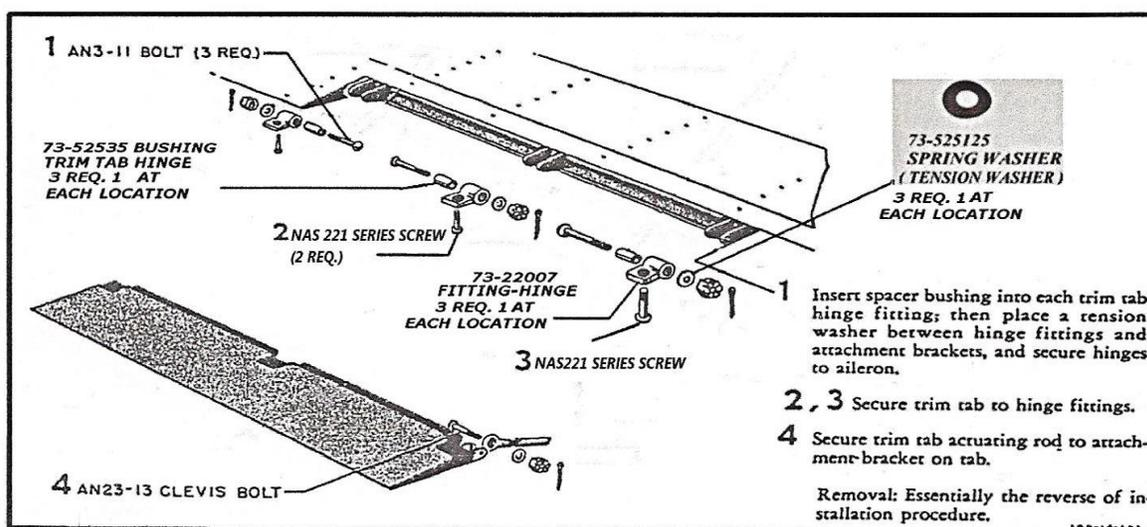

FIGURE 90- INSTALLING AILERON TRIM TABS REVISED UNDER LTC-11-5 MAY 1 2013
- Attach this Supplement No.1 to Service Bulletin P51-001 dated May 1, 2013 to update page 7 figure 90 "Installing Aileron Trim Tabs" with figure 90 below to reflect the correct P/N NAS221 Series structural screw 10-32 thread.
- Apply the enclosed adhesive back revised figure 90 to AN 01-60JE-2 Handbook Maintenance Instructions for USAF Series F-51D, ZF-51K, F-51M, TF-51D dated December 20 1944, revised December 20 1952, page 84 figure 90 "Installation of Aileron Trim Tab" to reflect the correct structural Screw P/N NAS221 series 10-32 thread. Also update other manuals as may be deemed necessary.